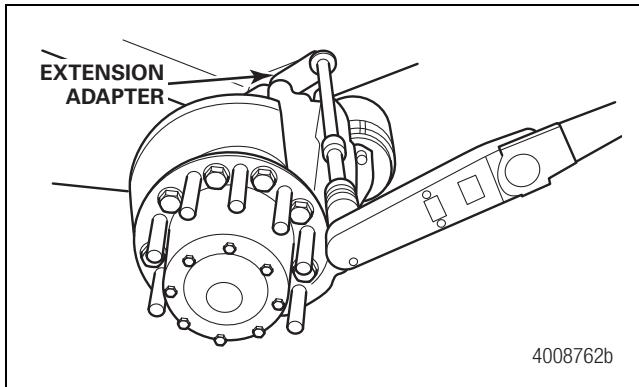

Figure 5.7
3. Use an appropriate size socket wrench (or extension adapter MST225 5001 if required), to tighten the carrier bolts to the torque values specified in Section 8. Figure 5.7. **T**